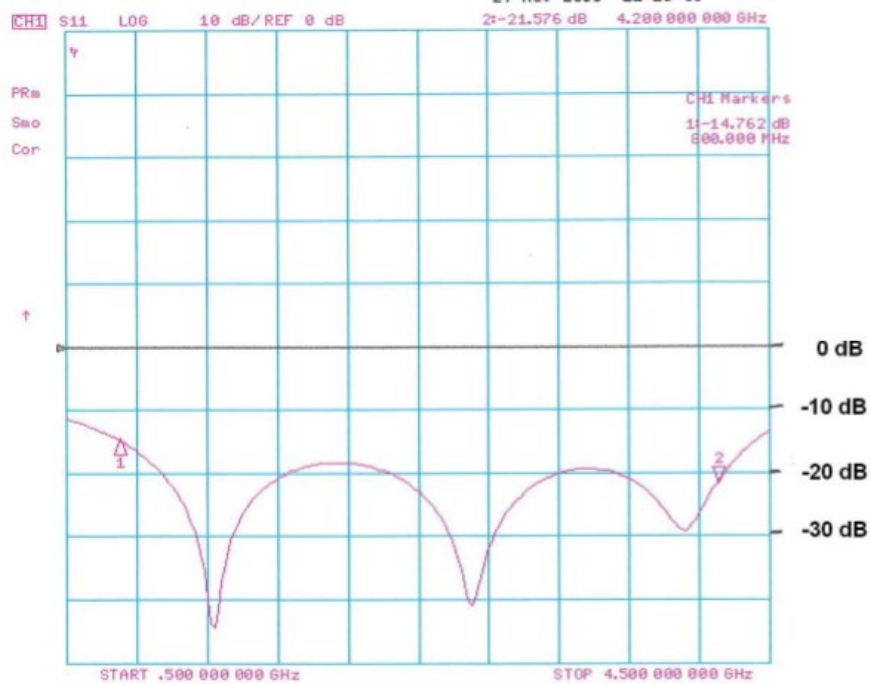

Figure 4-5. Typical 8-Way Combiner Return Loss: Combined Output Port
- A typical 8-Way Combiner Combined Port Return Loss is shown in Figures 4-5. The unused ports must be terminated when checking the Insertion Loss.